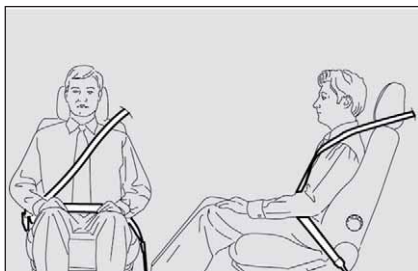

fig. 5
**IMPORTANT** The belt should not be twisted. The upper part should pass over the shoulder and cross the chest diagonally. The lower part should adhere to the pelvis **fig. 5** and not the abdomen of the passenger. Do not use any objects (pegs, stoppers, etc.) to keep the belts away from the body.